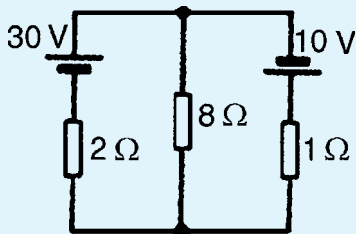

Figure 13.26
2. Use the superposition theorem to find the current in the 8 Ω resistor of Fig. 13.26 [0.385 A]